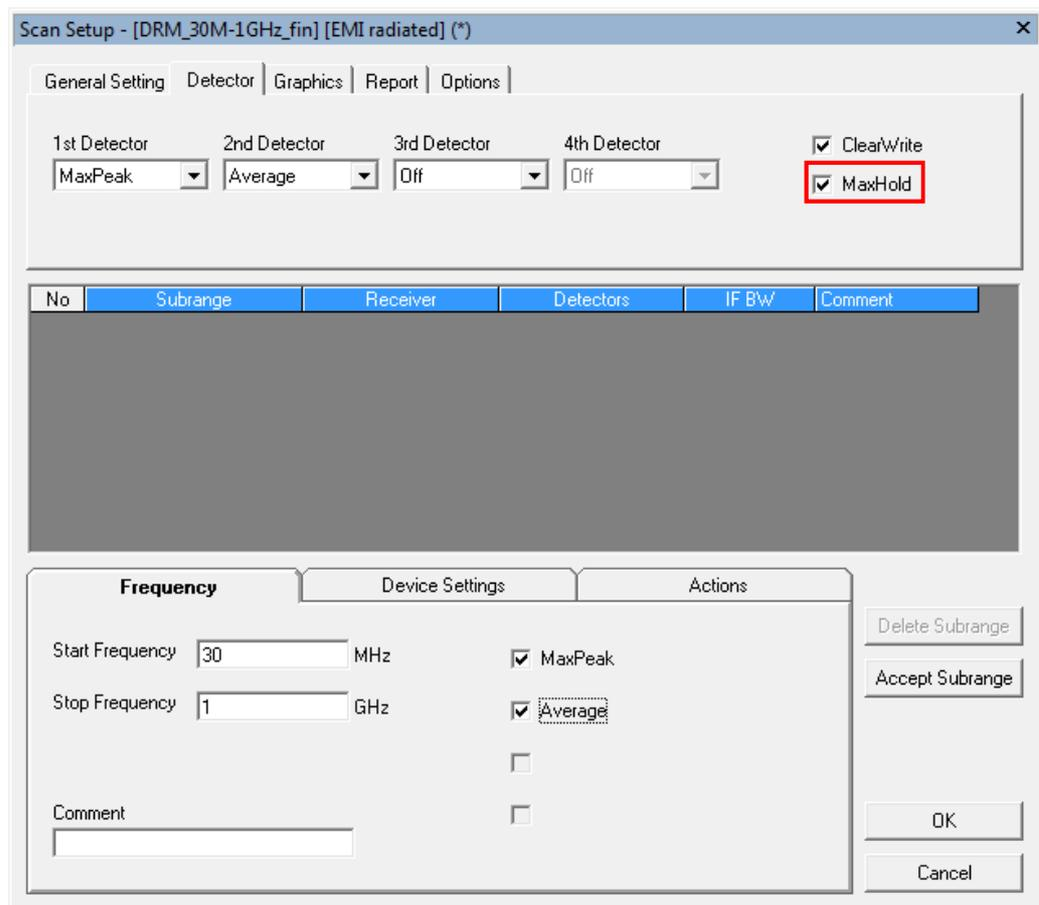

Fig. 4-2: Detector Tab in detail
- ▶ Antenna - name the antenna with fixed polarization to be configured as that polarization. As show in Fig. 4-2 in green box.
- ▶ Antenna Towers - Name the antenna tower with fixed polarization that to be mount with the antenna of that polarization. As show in Fig. 4-2 in blue box
- ▶ EMI Receiver / Spectrum Analyzer - Name the Receiver or Spectrum Analyzer with fixed polarization that been connected to the antenna of that polarization. As show in Fig. 4-2 in orange box.